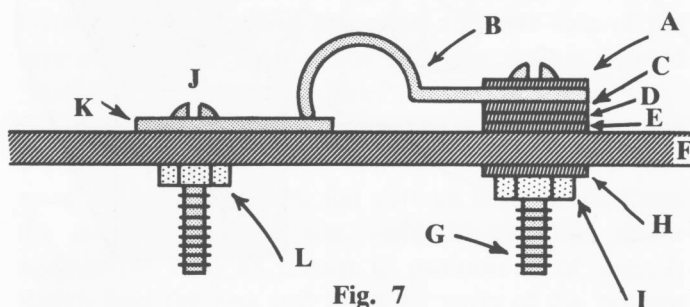

Fig. 7
8) Set up the switch, as shown at E, F, and G in Fig. 1. Another view is shown in Fig. 7. Use one flat washer (A in Fig. 7) above the switch arm (B). Use 3 washers (C, D, E) between the switch arm (B) and the cardboard platform (F). Fasten all in place with a #6 bolt (G), lock washer (H) below the board, and a nut (I). Do not tighten too much, just enough so that the switch arm can rotate without being loose.